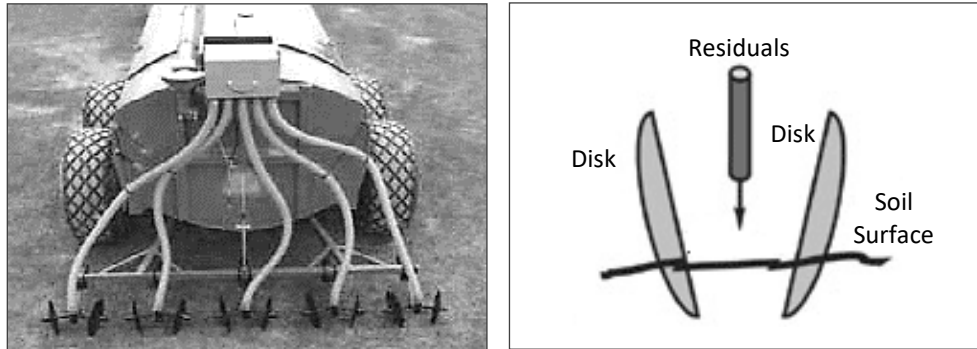

Figure 9-17. Incorporating-type applicator.
- ❑ ***Incorporating-type applicators*** immediately mix the residuals into the soil using cultivators or concave disks (Figure 9-17). Speed of application, lower power requirements, and uniform mixing of soil and residuals are advantages of this approach.